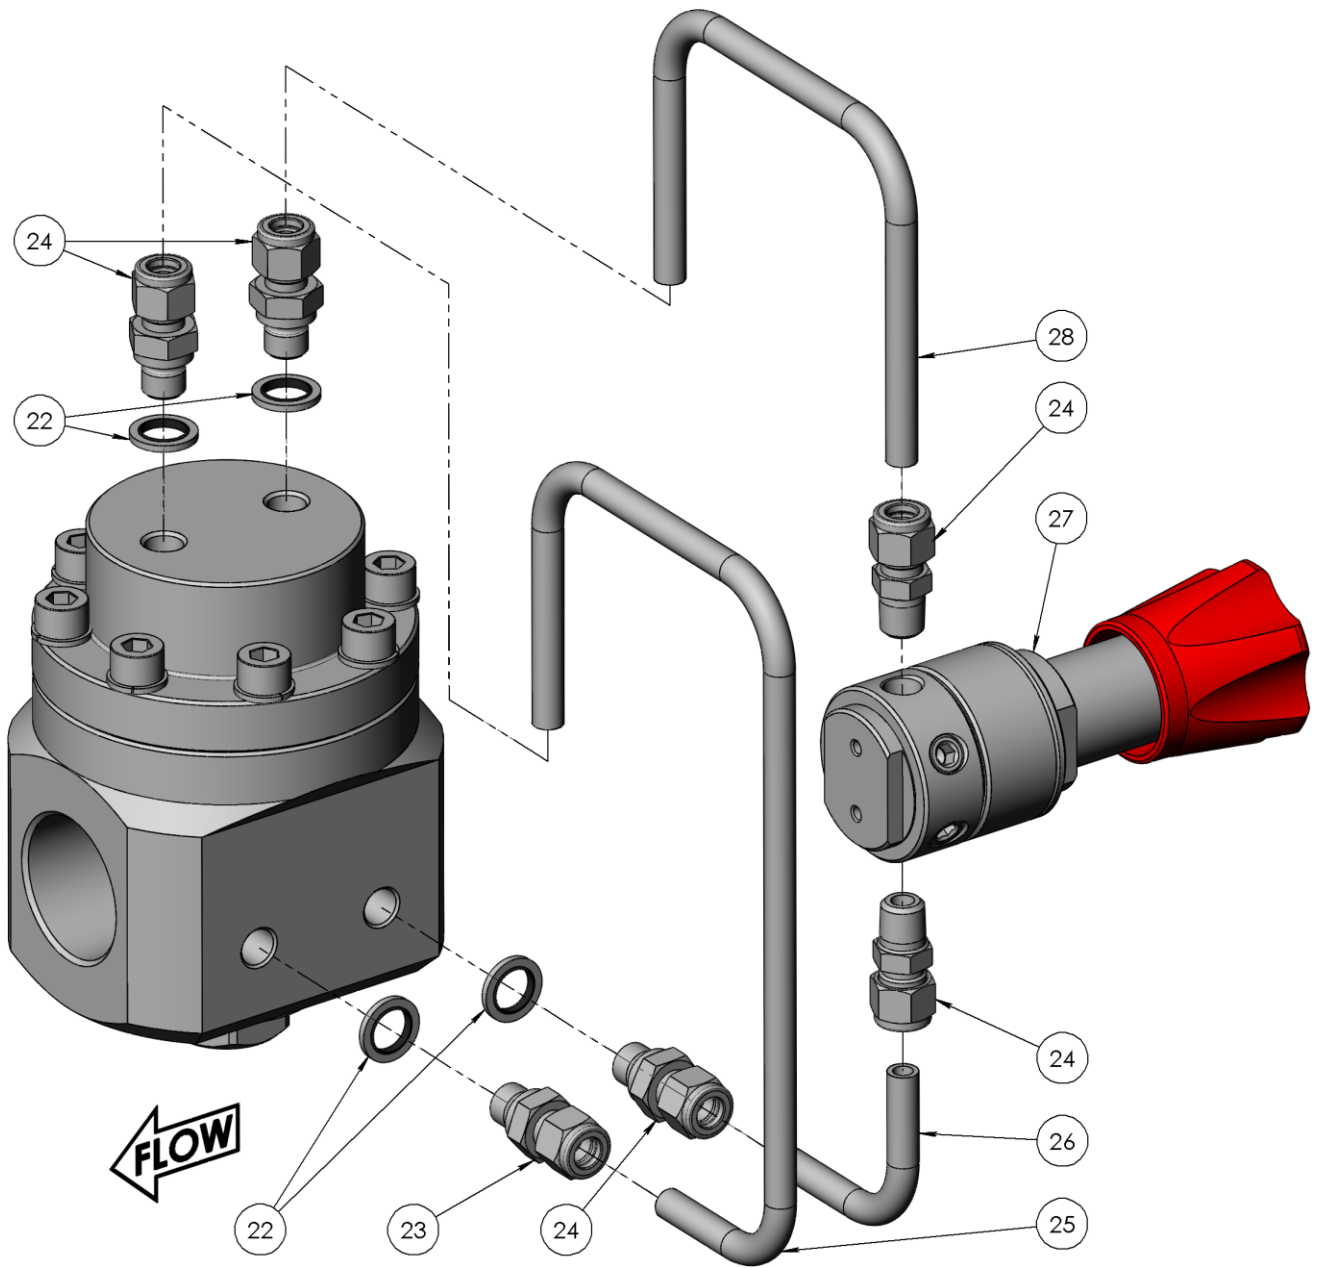
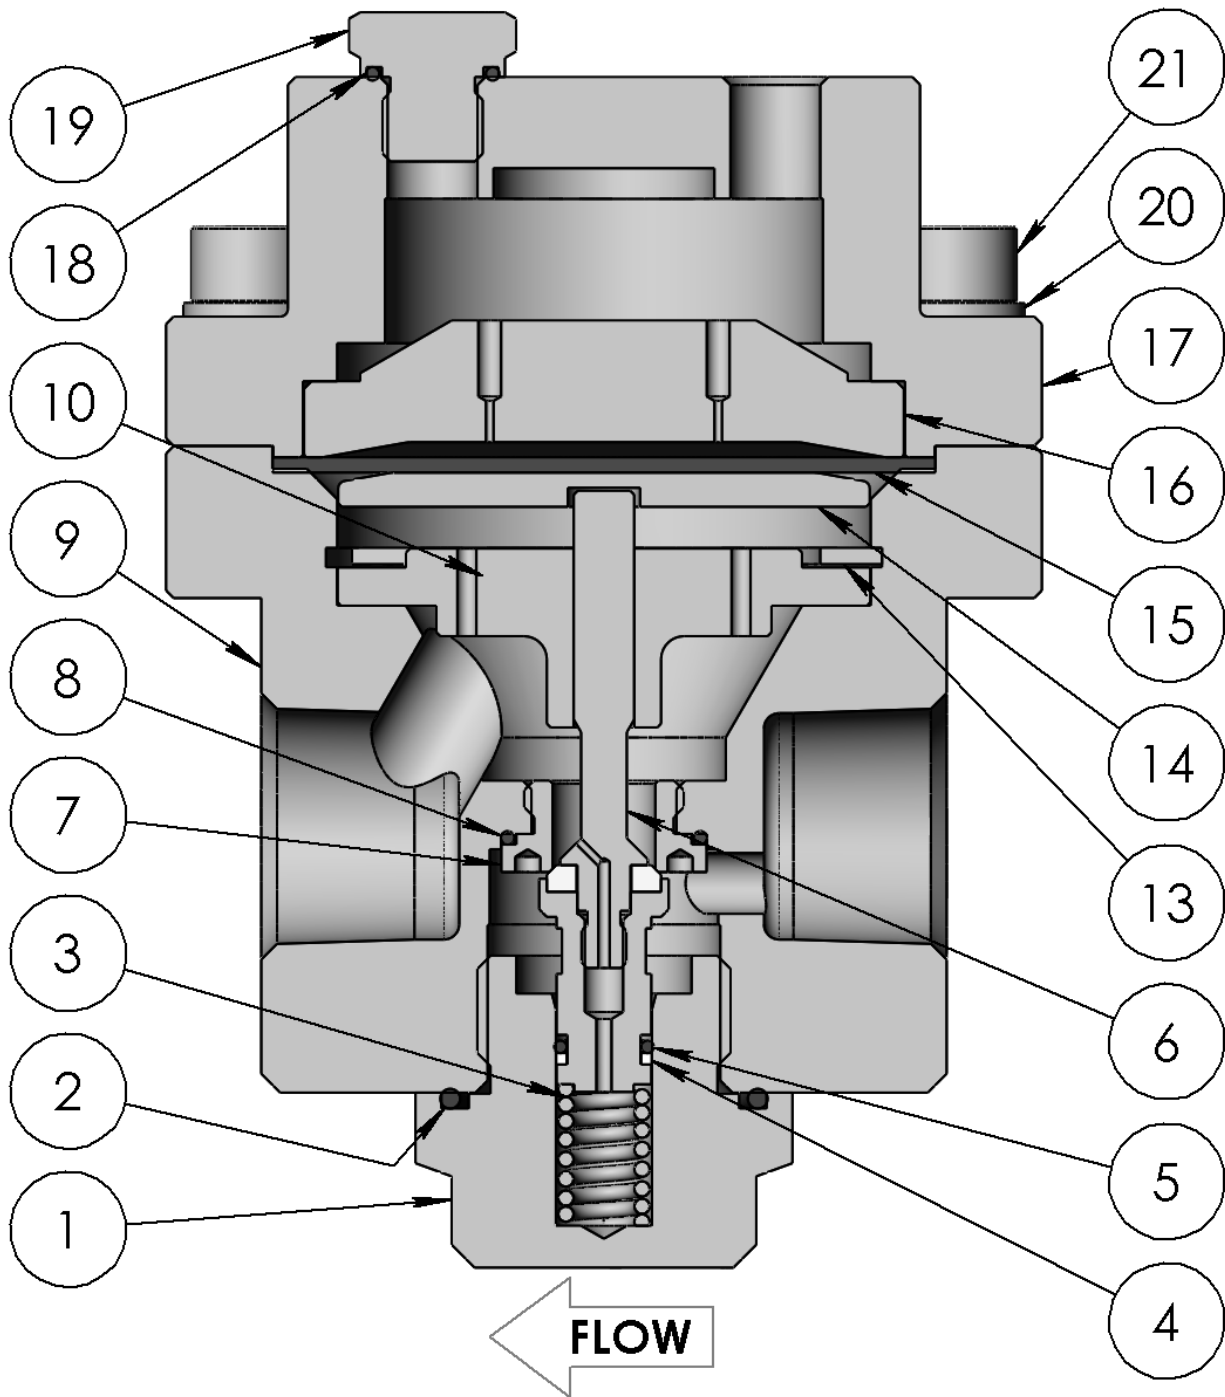

Fig 8
Fig 9
1. Fit the body plate (10) into the body (9) and retain with the retaining ring (13).
2. Fit the seat O-ring (8) into the body (9) and ensure that it is seated all the way round.
3. Lightly lubricate the seat threads (7) then insert the seat (7) into the body (9) using the seat insertion tool.
4. Torque the seat (7) to 7 lbf·ft (10 N·m). Take care not to pinch the seat O-ring (8) or damage the seat (7) with the tool.
5. Fit the poppet O-ring (5) and, if present, backup ring (4) onto the poppet. Ensure they are oriented correctly per Fig 9.
6. Lightly lubricate the poppet O-ring (5) then insert the poppet (6) through the seat (7) and body plate (10). Take care not to damage either the seat (7) or poppet (6).
7. Place the poppet spring (3) onto the poppet (6).
8. Fit the body plug O-ring (2) onto the body plug (1) and lightly lubricate the body plug threads.
9. Insert the body plug (1) into the body (9) over the poppet spring (3). Torque to 37 lbf·ft (50 N·m).
10. Place the diaphragm plate (14) onto the poppet (6).
11. Place the diaphragm (15) onto the diaphragm plate (14) and locate it in the body (9).
12. Place the dome plate (16) centrally onto the diaphragm (15) then cover with the dome (17). Orient the dome ports per Fig 8.
13. Lightly lubricate the cap screw threads (21) then use them and the washers (20) to secure the dome (17) to the body (9). Torque to 22 lbf·ft (30 N·m).
14. If present, install the feed tube (26), dome tube (28), and pilot regulator (27) into the ports on the inlet side of the body (9) per Fig 8.
15. If present, install the bleed tube (25) into the ports on the outlet side of the body (9) per Fig 8. Note that the bleed fitting (23) can be identified by its reduced internal orifice.